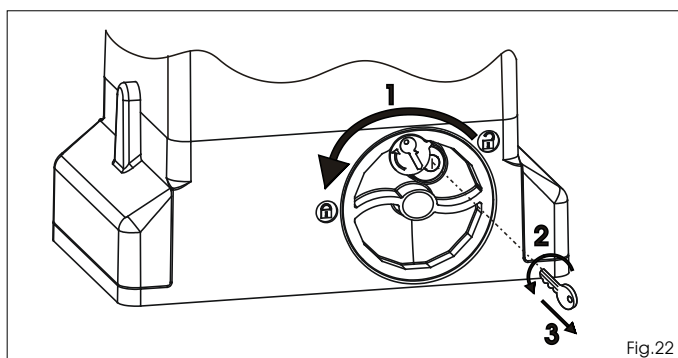

Fig.22
- 1) Turn the release system anticlockwise until it reaches its stop position, Fig.22 ref.1.